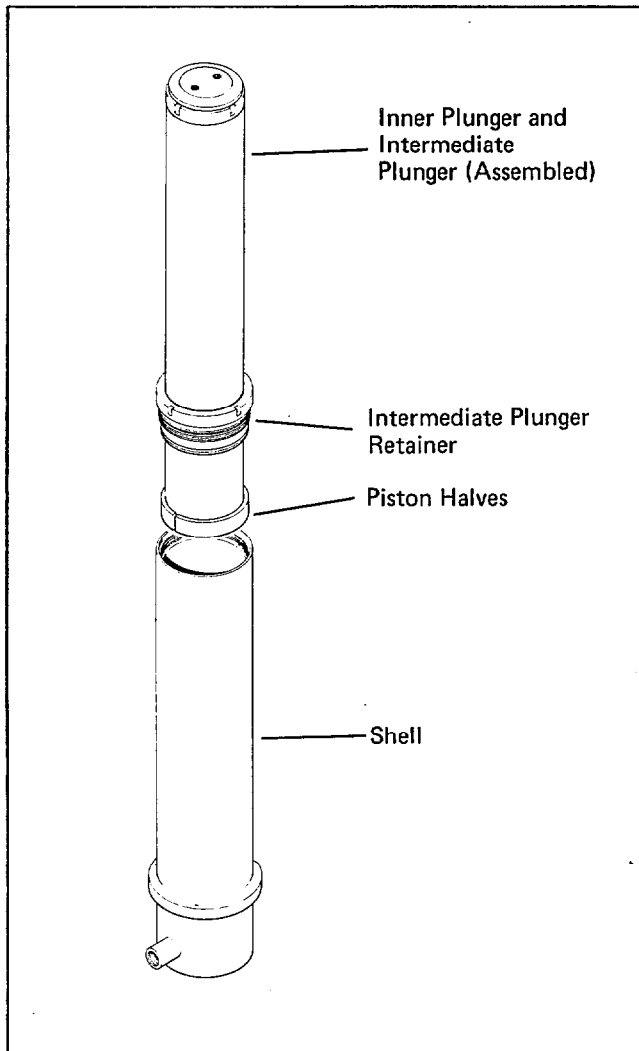

Figure 5-17 Cylinder Assembly
- Replace the spacer, spring and washer in the cylinder port, making sure the parts are clean and that no dirt or contamination is contained in the port. See figure 5-17.